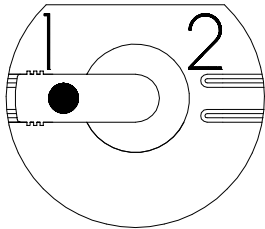

Figure 5
- select rotation speed: area 1 or 2 (see figure 5)